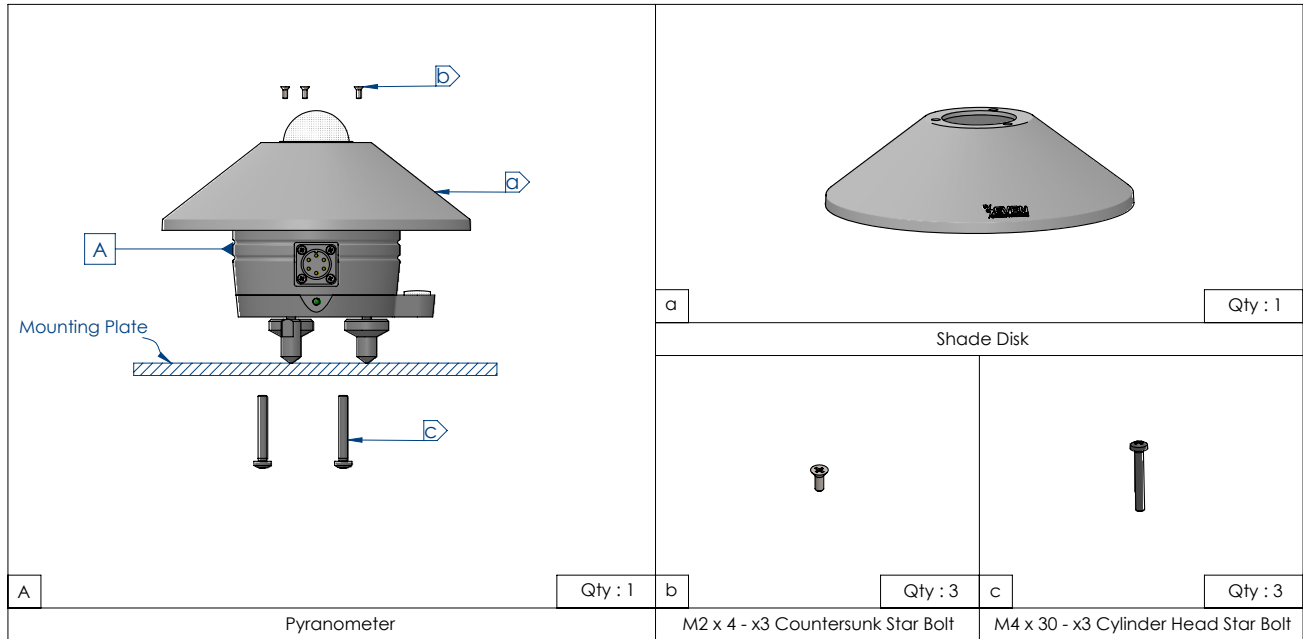

Figure 3 - Thermopile Pyranometer Packing List
- Make sure that you received all the material mentioned in Figure 3 and that your installation location meets the requirements under “2.2. Site Requirements and Considerations” before starting the installation.